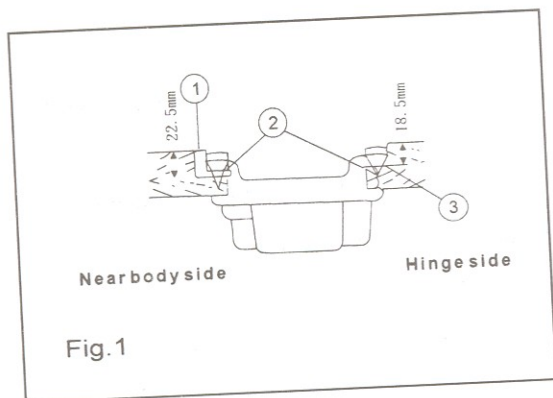

Fig.1
4. Installation of the machine(Fig.1)
Put the oil reservoir rubber cushion ① and oil reservoir felt cushion ③ on four corners of the opening of the table, fix them with the wood screws ②, then install the oil reservoir (Fig1)